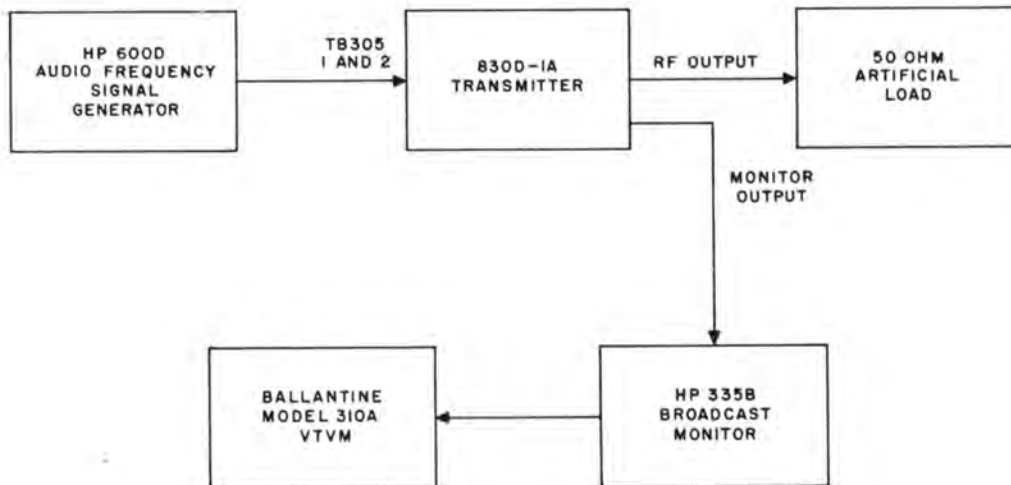

Figure 5-4. FM Noise Test Setup
a. Refer to figure 5-4. Connect an audio frequency signal generator, such as a Hewlett-Packard Model 600D, to terminals 1 and 2 of terminal board TB305. (Disconnect the station console audio input leads when making this measurement.) Connect a vacuum tube voltmeter to the output terminals of the broadcast monitor. Connect an artificial load to the r-f output connector located on top of the transmitter cabinet. Turn on the transmitter.